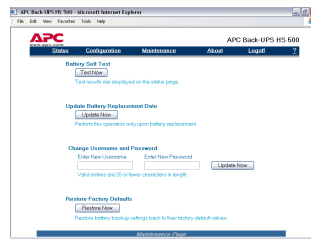

Figure 15. Maintenance Page Screen
14. Using the Maintenance Screen (Figure 15), you can perform a Battery Self-Test, Update the Battery Replacement Date, Change the User Name or Password (as previously discussed) then click Update Now, or you can Restore Factory Defaults. Note: You must be logged on to perform any of these tasks.